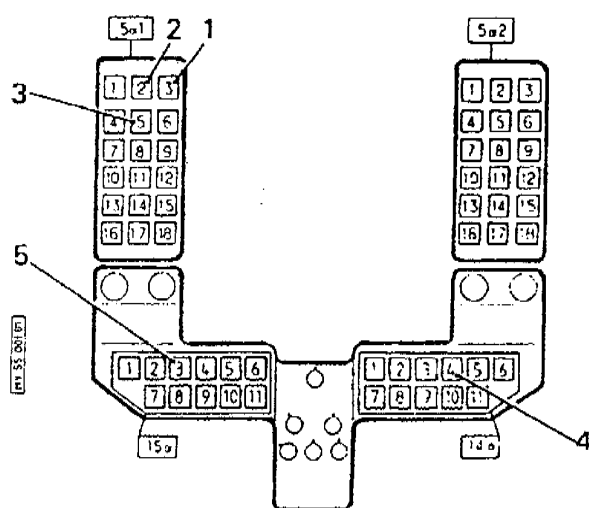

Figure 4
1.7 A.P. control push-buttons (Figure 4)